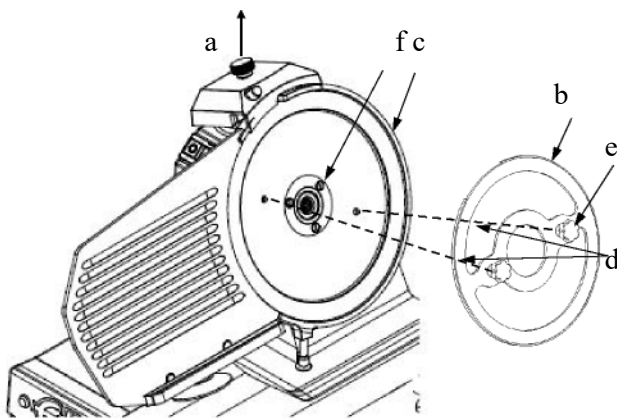

FIG. no. 12 - Placing the blade guard to remove the blade
The blade cleaning must be carried out with cut resistant gloves (3) and a wet cloth. To clean the blade on the opposite surface, it is necessary to remove the blade (see FIG. no. 12).